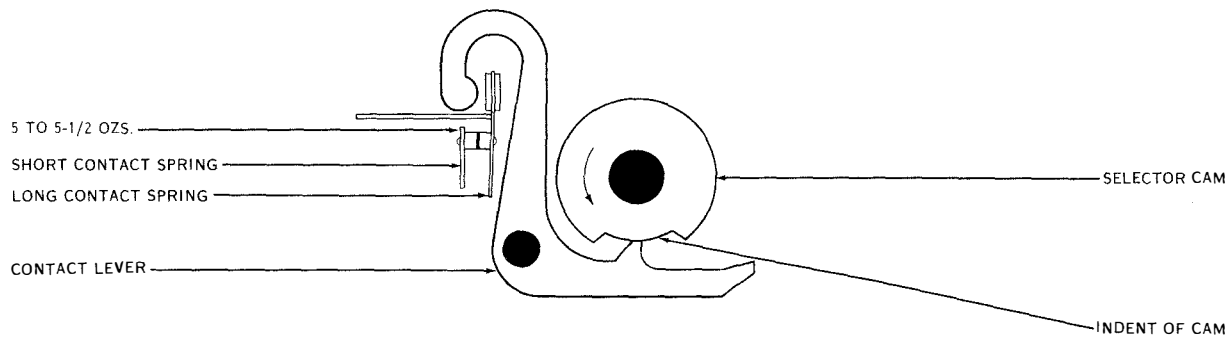

Figure 7-83. Transmitting Contact Spring - Long (Final)
(14) TRANSMITTING CONTACT SPRING PRESSURE (FINAL). (See figure 7-83.)—With any contact lever on the low part of its cam (points closed), it should require a pressure of 5 to 5½ ounces to open the contact points. To check, apply the push end of an eight-ounce scale to the long contact spring, just above the contact point. If necessary, refine the contact spring pressure by rebending the long contact spring as described previously. Recheck the transmitting contact gap adjustment (paragraph (12) above).
(15) COMB SHAFT RETAINER.